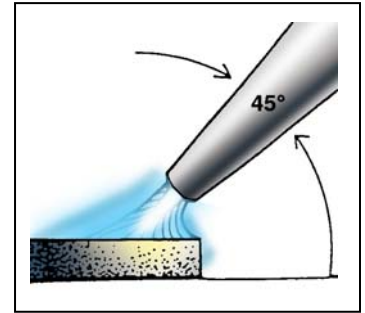

Figure 1
8. Heat the end of the brazing rod and the point on the plate where the bead is to begin. Refer to Figures 1 and 2.